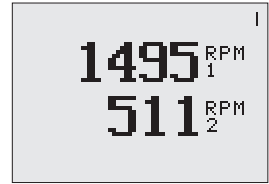

Figure 34: Example of main screen when configured as an Tacho Meter monitoring 2 shaft speeds
5. Main screen should display as described in Figure 34.